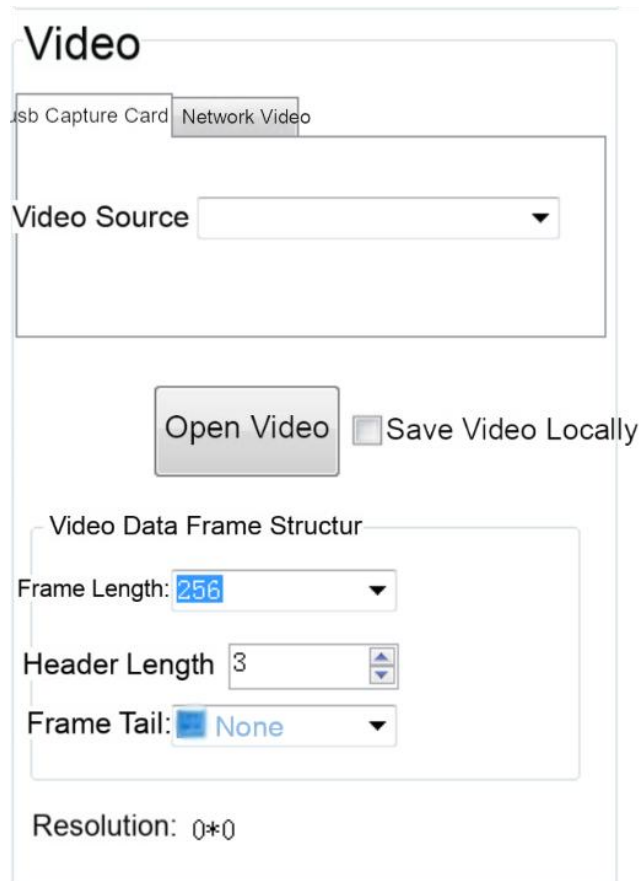

Figure 5-1 USB Capture Card Input
- 2) As shown in Figure 5-1 and Figure 5-2, select the corresponding tab according to the input method.